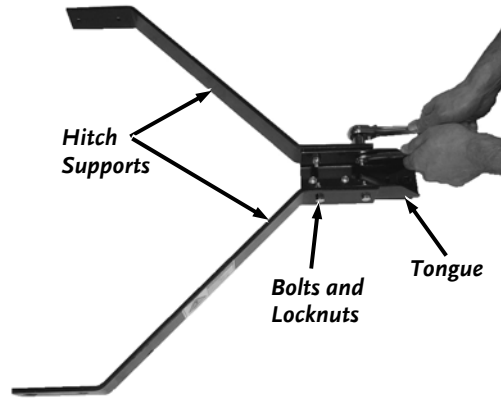

Figure 43
2. Secure the two Hitch Supports to the Tongue with four 5/16"-18 Bolts and Nylon Lock Nuts using two 1/2" wrenches (**Figure 43**).